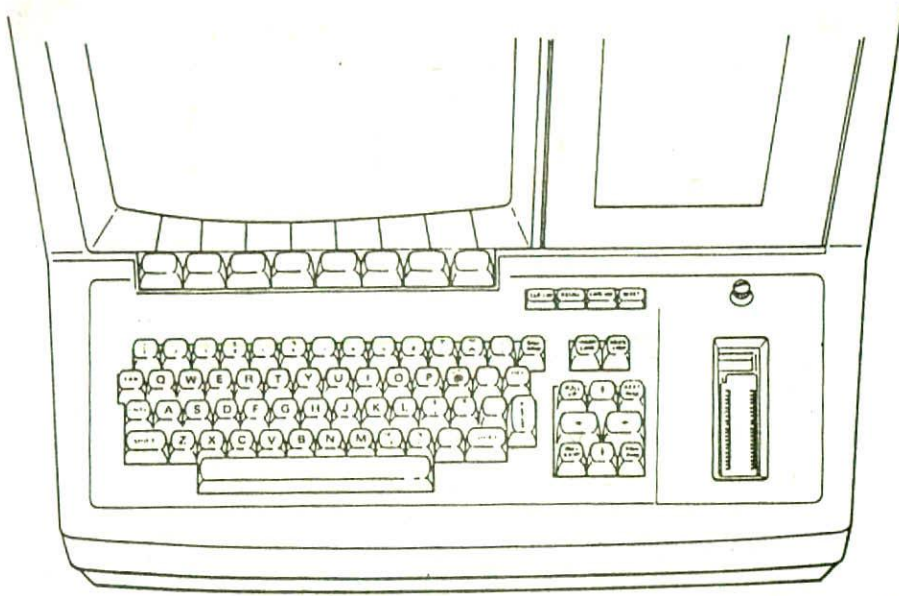

Figure A.2 Model 64100A keyboard. Source: Courtesy of Hewlett-Packard.
Figure A.1 shows the front view of the HP 64000 Development Station. The keyboard (Figure A.2) is divided into four areas: (1) an ASCII-encoded typewriter-type keyboard; (2) a group of edit keys, which facilitate movement of text or cursor when in the edit mode; (3) special function keys, for system reset or pause or to access a command recall buffer; (4) the all important system "soft keys," eight unobtrusive large key pads just beneath the bezel which surrounds the display.